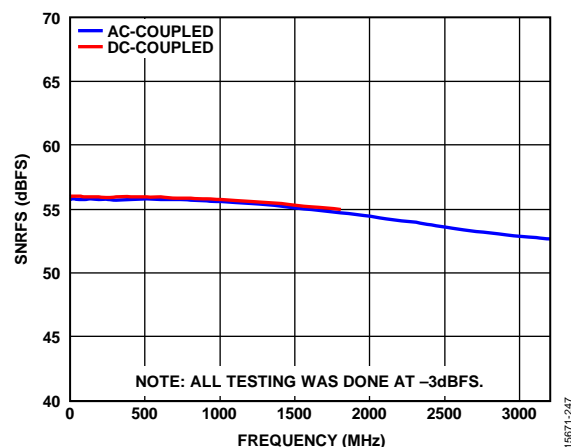
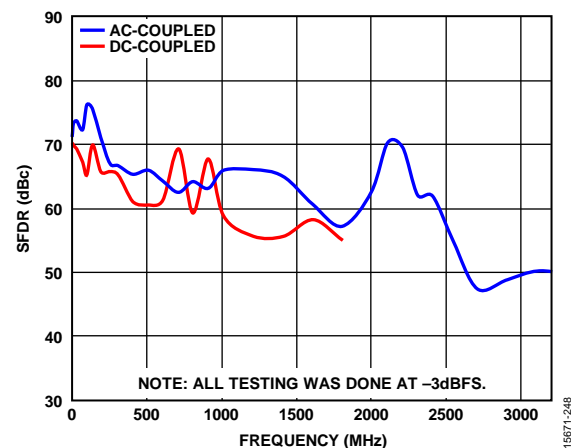

Figure 47. ADC System SNR Referred to Full Scale (SNRFS) vs. Frequency
Figure 48. ADC System SFDR vs. Frequency
The signal-to-noise ratio (SNR) and SFDR with respect to full scale (FS) of the ADC system, is shown in Figure 47 and Figure 48.